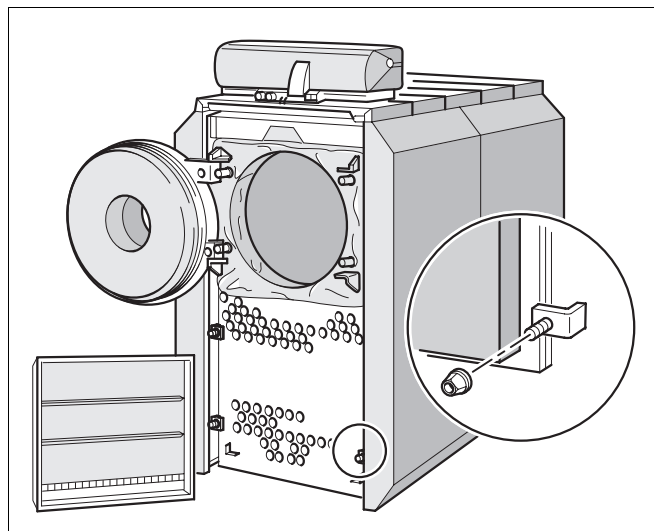

Fig. 26 Removing the baffle plate and opening the boiler door
- Undo nuts from angle brackets, twist angle brackets clear and remove baffle plate (Fig. 26).
- Unscrew hex-bolts from boiler door and open boiler door (Fig. 26).
- Place baffle plate in position and fix and seal with angle brackets (Fig. 26). Ensure it is tight all around.
5	Remove baffle plate (Fig. 26, page 27)